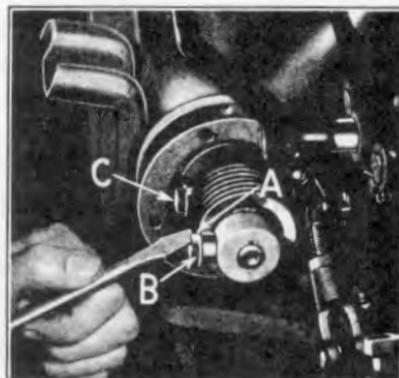
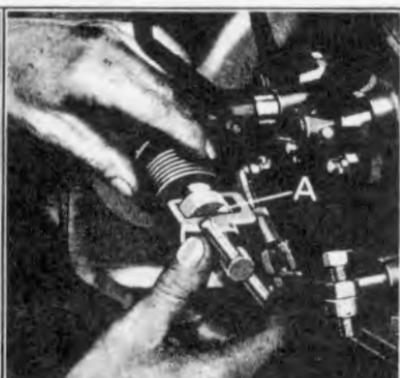
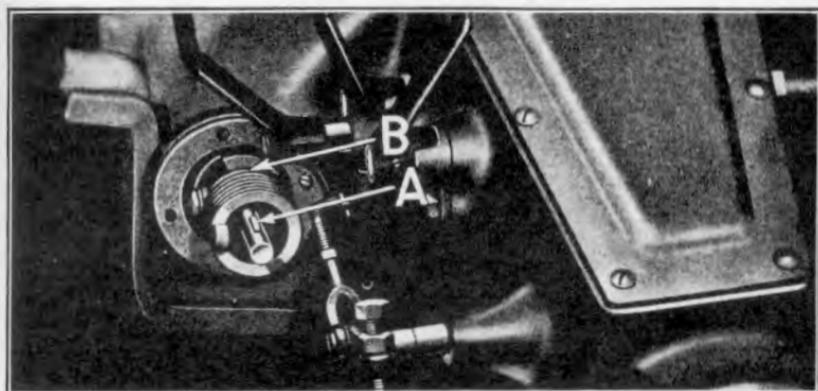

Fig. 444
Fig. 445
Fig. 446
- 895 If the bendix spring is broken, it is removed by prying up extension on bendix head spring screw lockwasher (See "A" Fig. 444) and running out screw "B". The bendix shaft spring screw "C" is then removed in the same manner.
- 896 If spring is O. K. but the gear or shaft is broken, run out bendix head spring screw (See "B" Fig. 444), then remove bendix head by slipping it off over end of starting motor shaft. If the head fits tightly it can be withdrawn with a puller (See "A" Fig. 445).
897 Lift bendix key from starting motor shaft (See "A" Fig. 446). If key fits tightly in shaft, it can be removed by tapping it with a small hammer and drift. Bendix shaft, gear, and spring "B" can now be slipped off end of starting motor shaft. The spring is then removed from bendix shaft by running out bendix shaft spring screw (See "C" Fig. 444).